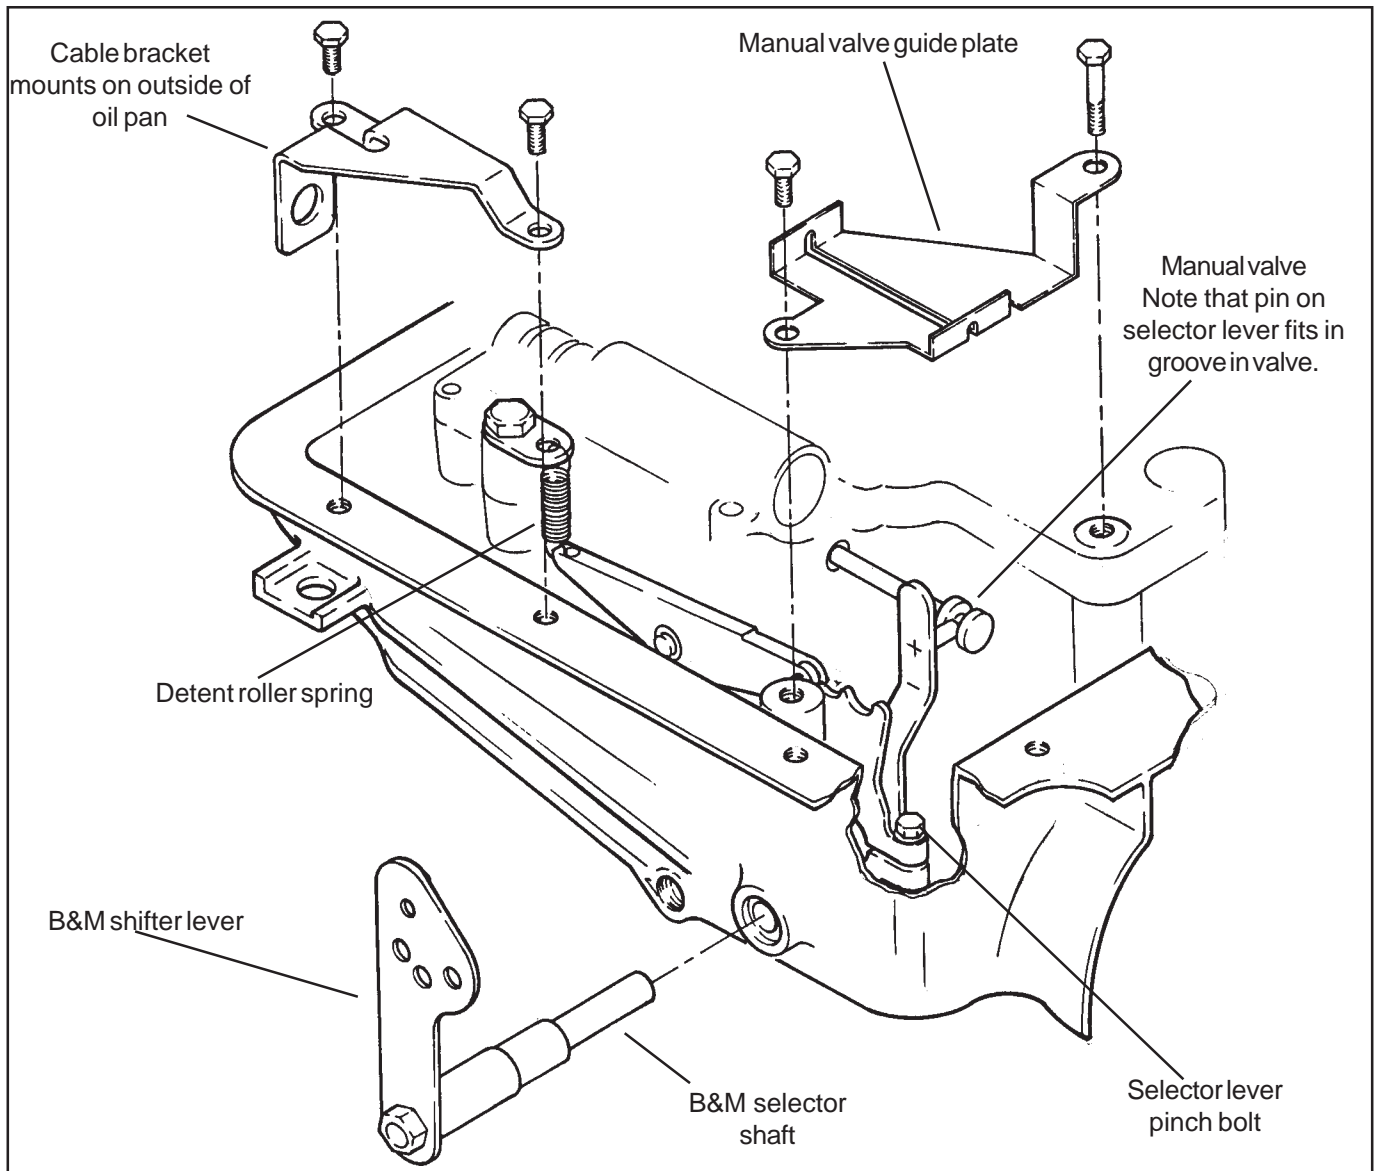

Figure 8
Step 27. Remove the manual valve guide plate by removing the two bolts (**See Figure 8**). Unhook and remove the detent roller spring. Allow the detent roller to pivot out of the way. Note how the pin on the manual valve selector engages the groove in the manual valve.
sition with the two remaining pan bolts (**See Figure 8**). Install the **B&M** lever onto the shaft with the lever pointing down. If your cable comes from the front (usually a rear engine car) the lever is installed pointing upwards. You will have to make your own cable bracket for this installation.